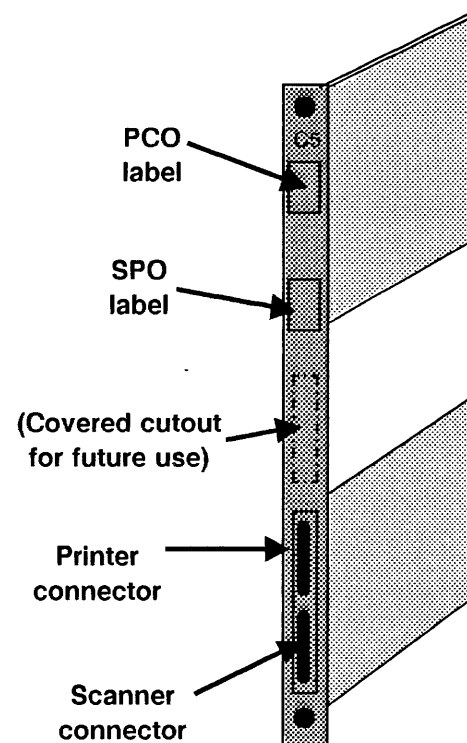

Figure 32. C5 Stiffener: end view showing labels and scanner/printer connection
7. Two PCO labels are supplied with the SPO kit. Select the PCO label that matches the one on the C5 stiffener from which you removed the PCO PWB. Attach this label to the spine of the new C5 stiffener, just below the "C5" marking (Figure 32).